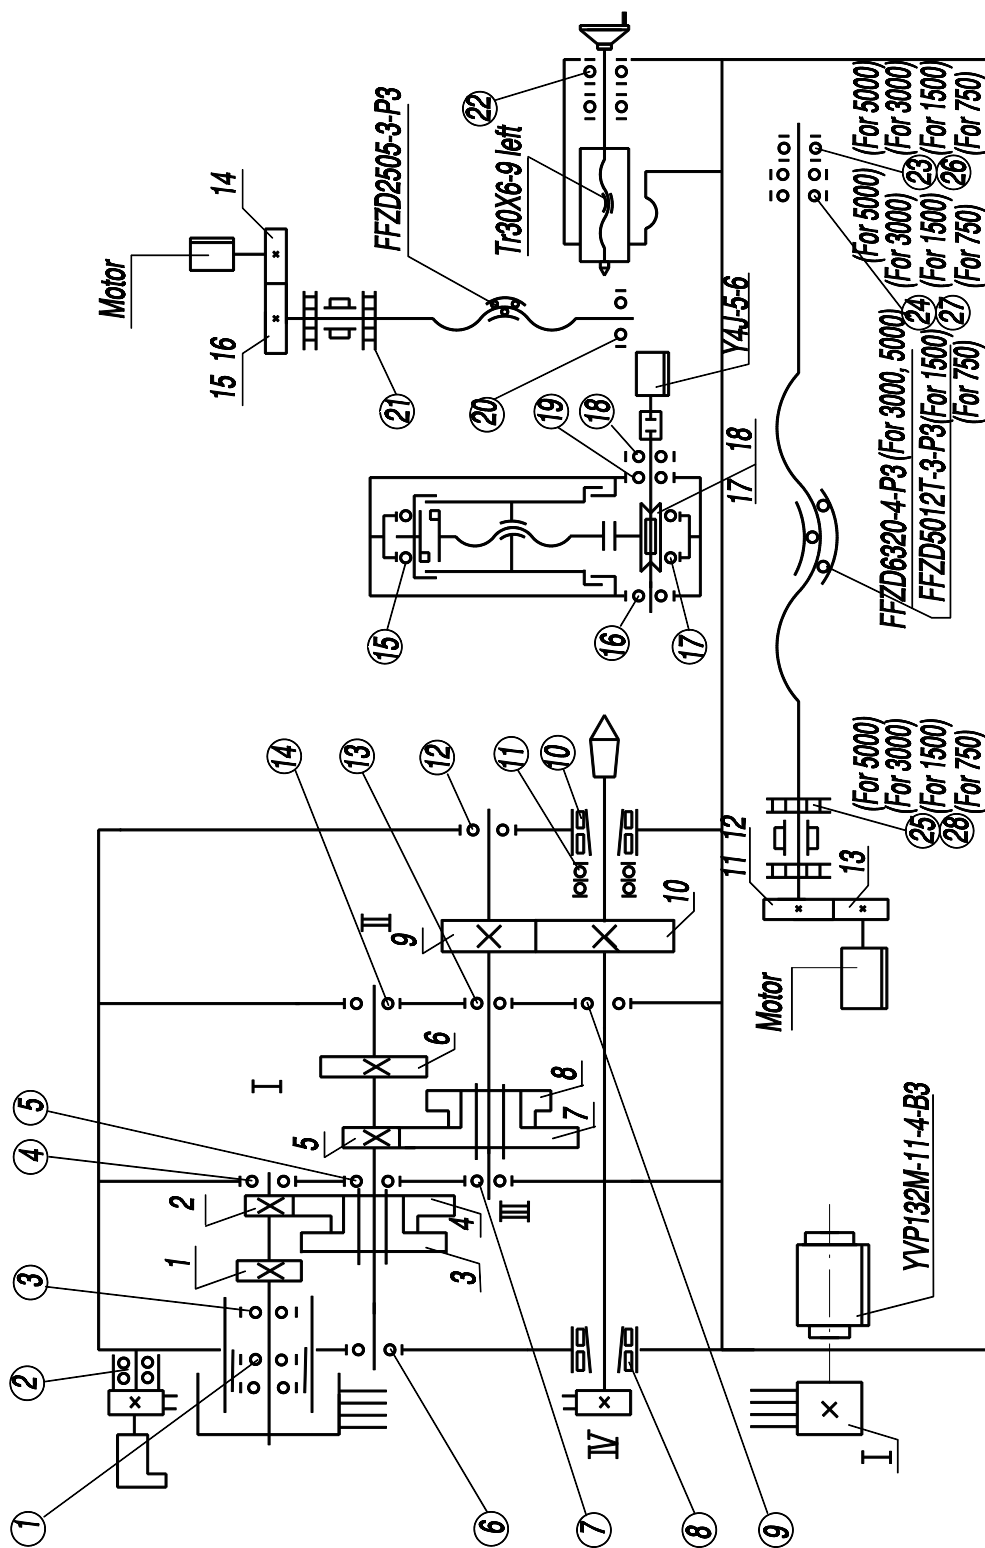

Fig. 5 Main driving system of machine
- Drawing of main driving system of machine of frequency conversion (See Fig. 5)